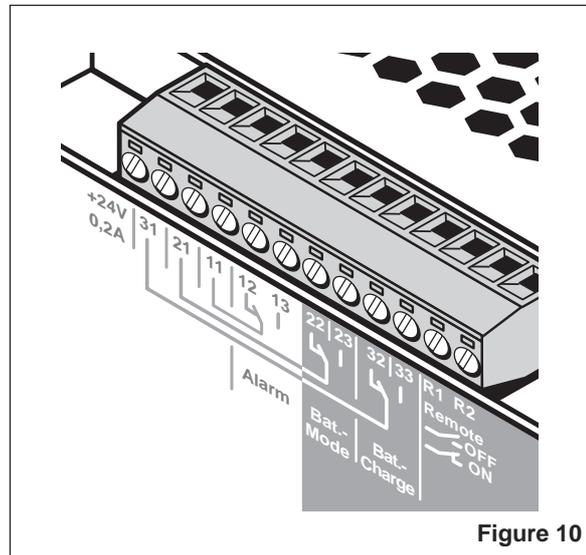

Figure 10
**5.7. Remote Shutdown ("Remote", Fig. 10)**